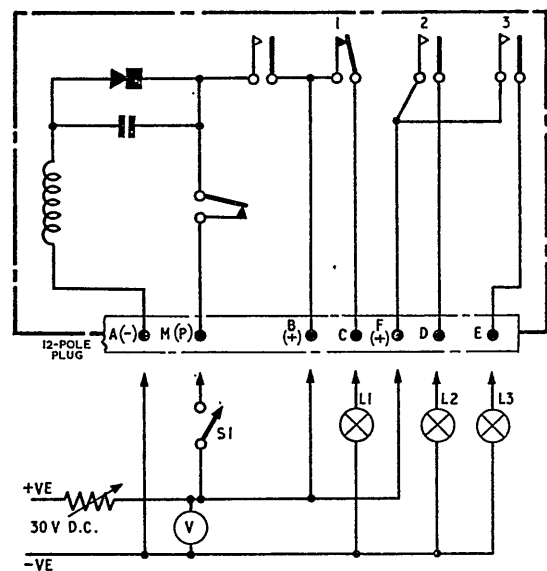

Fig. 1. Switch, Type D8162, circuit diagram and test circuit
1. This time delay switch has three pairs of circuit contacts, the circuit diagram (fig. 1) shows the switch internal wiring and the associated test circuit. The total motor run and circuit contact timings is detailed in para. 3.